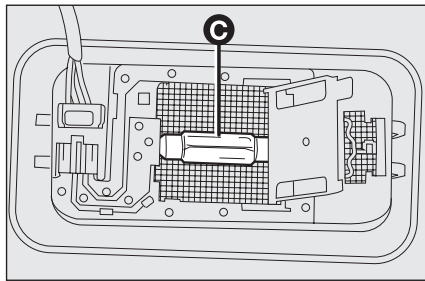

fig. 34
- replace bulb **C-fig. 34** releasing it from the side contacts, then insert the new bulb making sure it is correctly clamped between the contacts;